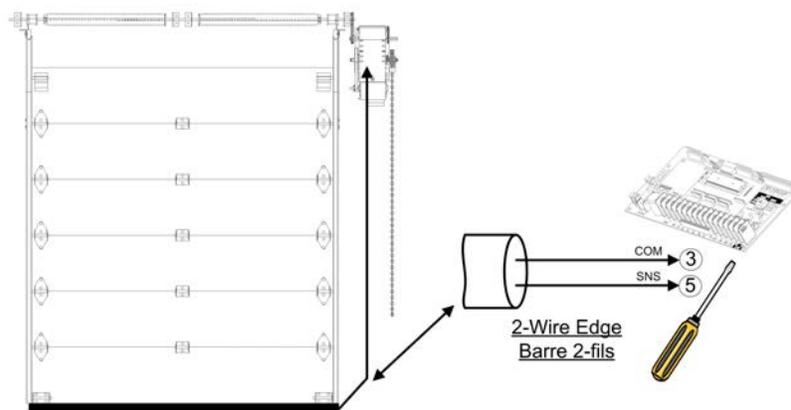

Figure 35 - Electric Reversing Edge
3. Use a coil cord or take-up reel to connect the sensing edge wires to the operator terminals. Install electric wires according to Figure 35.